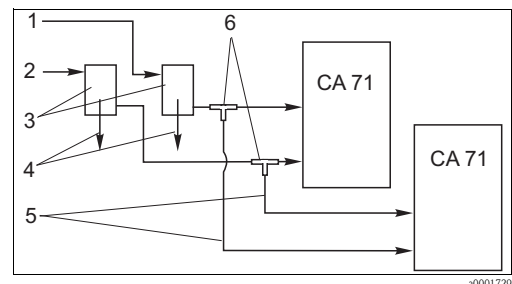

Fig. 14: Installation example
- Distance between the analysers as short as possible: sampling line between T-piece and the second analyser (→ Fig. 14, item 5) shorter than 1.5 m